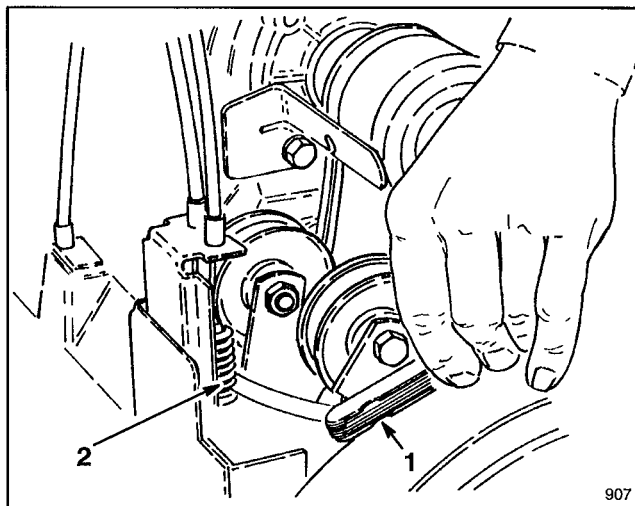

Figure 29
1. Upper belt cover 3. Flange head capscrew (3)
3. CHECKING IMPELLER CABLE ADJUSTMENT—Depress the auger/impeller control lever on the right hand grip. Hold the lever and insert a .010" (.25mm) feeler gauge between a coil in the center of the spring (Fig. 29). Adjust the cable to achieve .010" (.25 mm) gap between the coils.